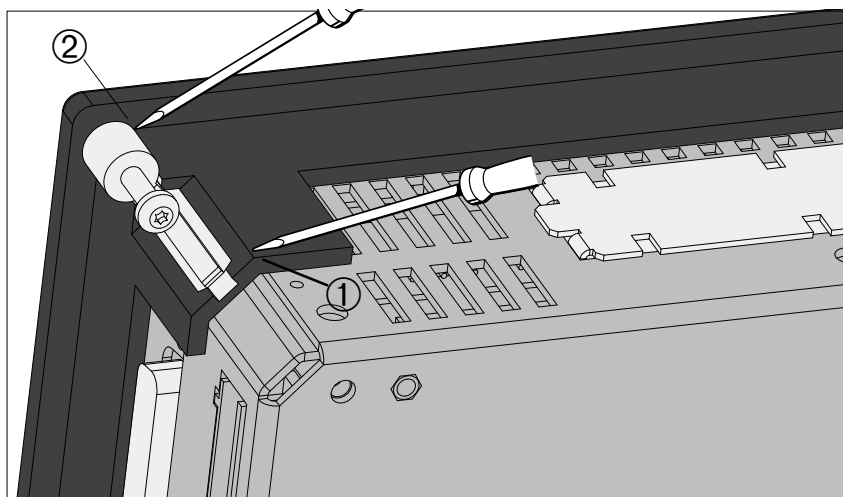

Figure 2-6 Loosening the Fixing Bracket
3.	Push fixing bracket out of guide (② in Figure 2-6).